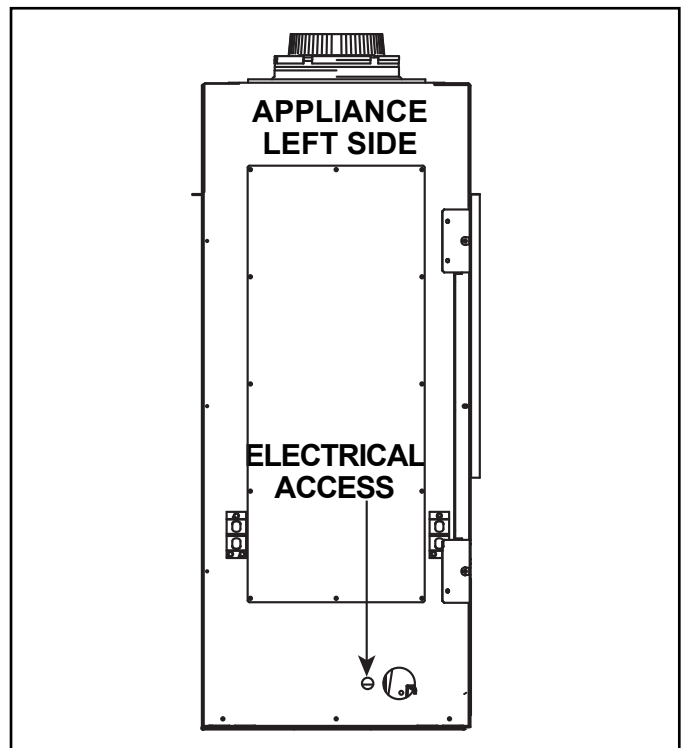

Figure 8.2 Electrical Access
- Pull the electrical wires from outside the appliance through the electrical wire opening, as shown in Figure 8.2, into the control cavity and secure wires with a Romex connector.